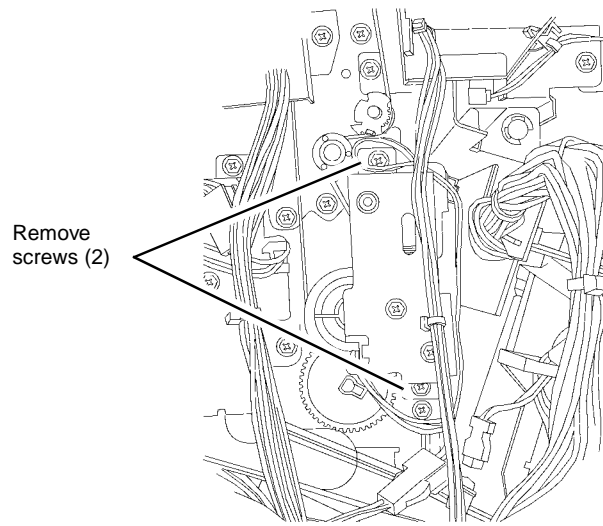

Figure 2 Removing the Transport Gate Solenoid Bracket
3. Remove the Transport Gate Solenoid Bracket (Figure 2).